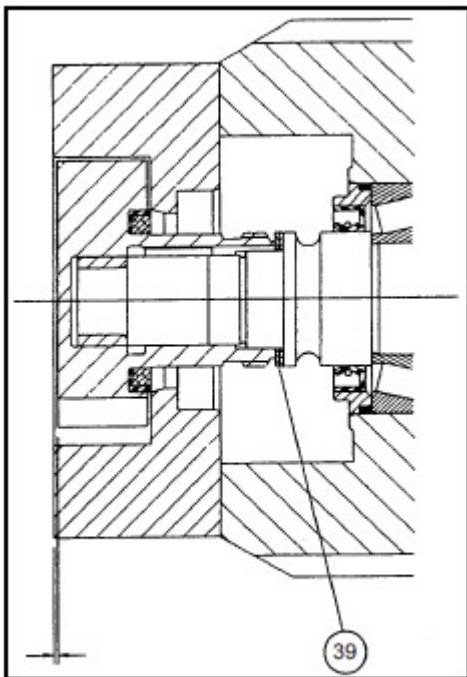

Figure 17
b) Loosen screws (29) in rotor retainers (28) until pins (30) can be removed. Remove rotor retainers from shafts, taking care not to lose shims (39).
c) Add shims to shim pack to reduce front clearance, remove shims to increase front clearance - see Figure 17. Shims are available in increments of 0.025mm (0.001 inch).